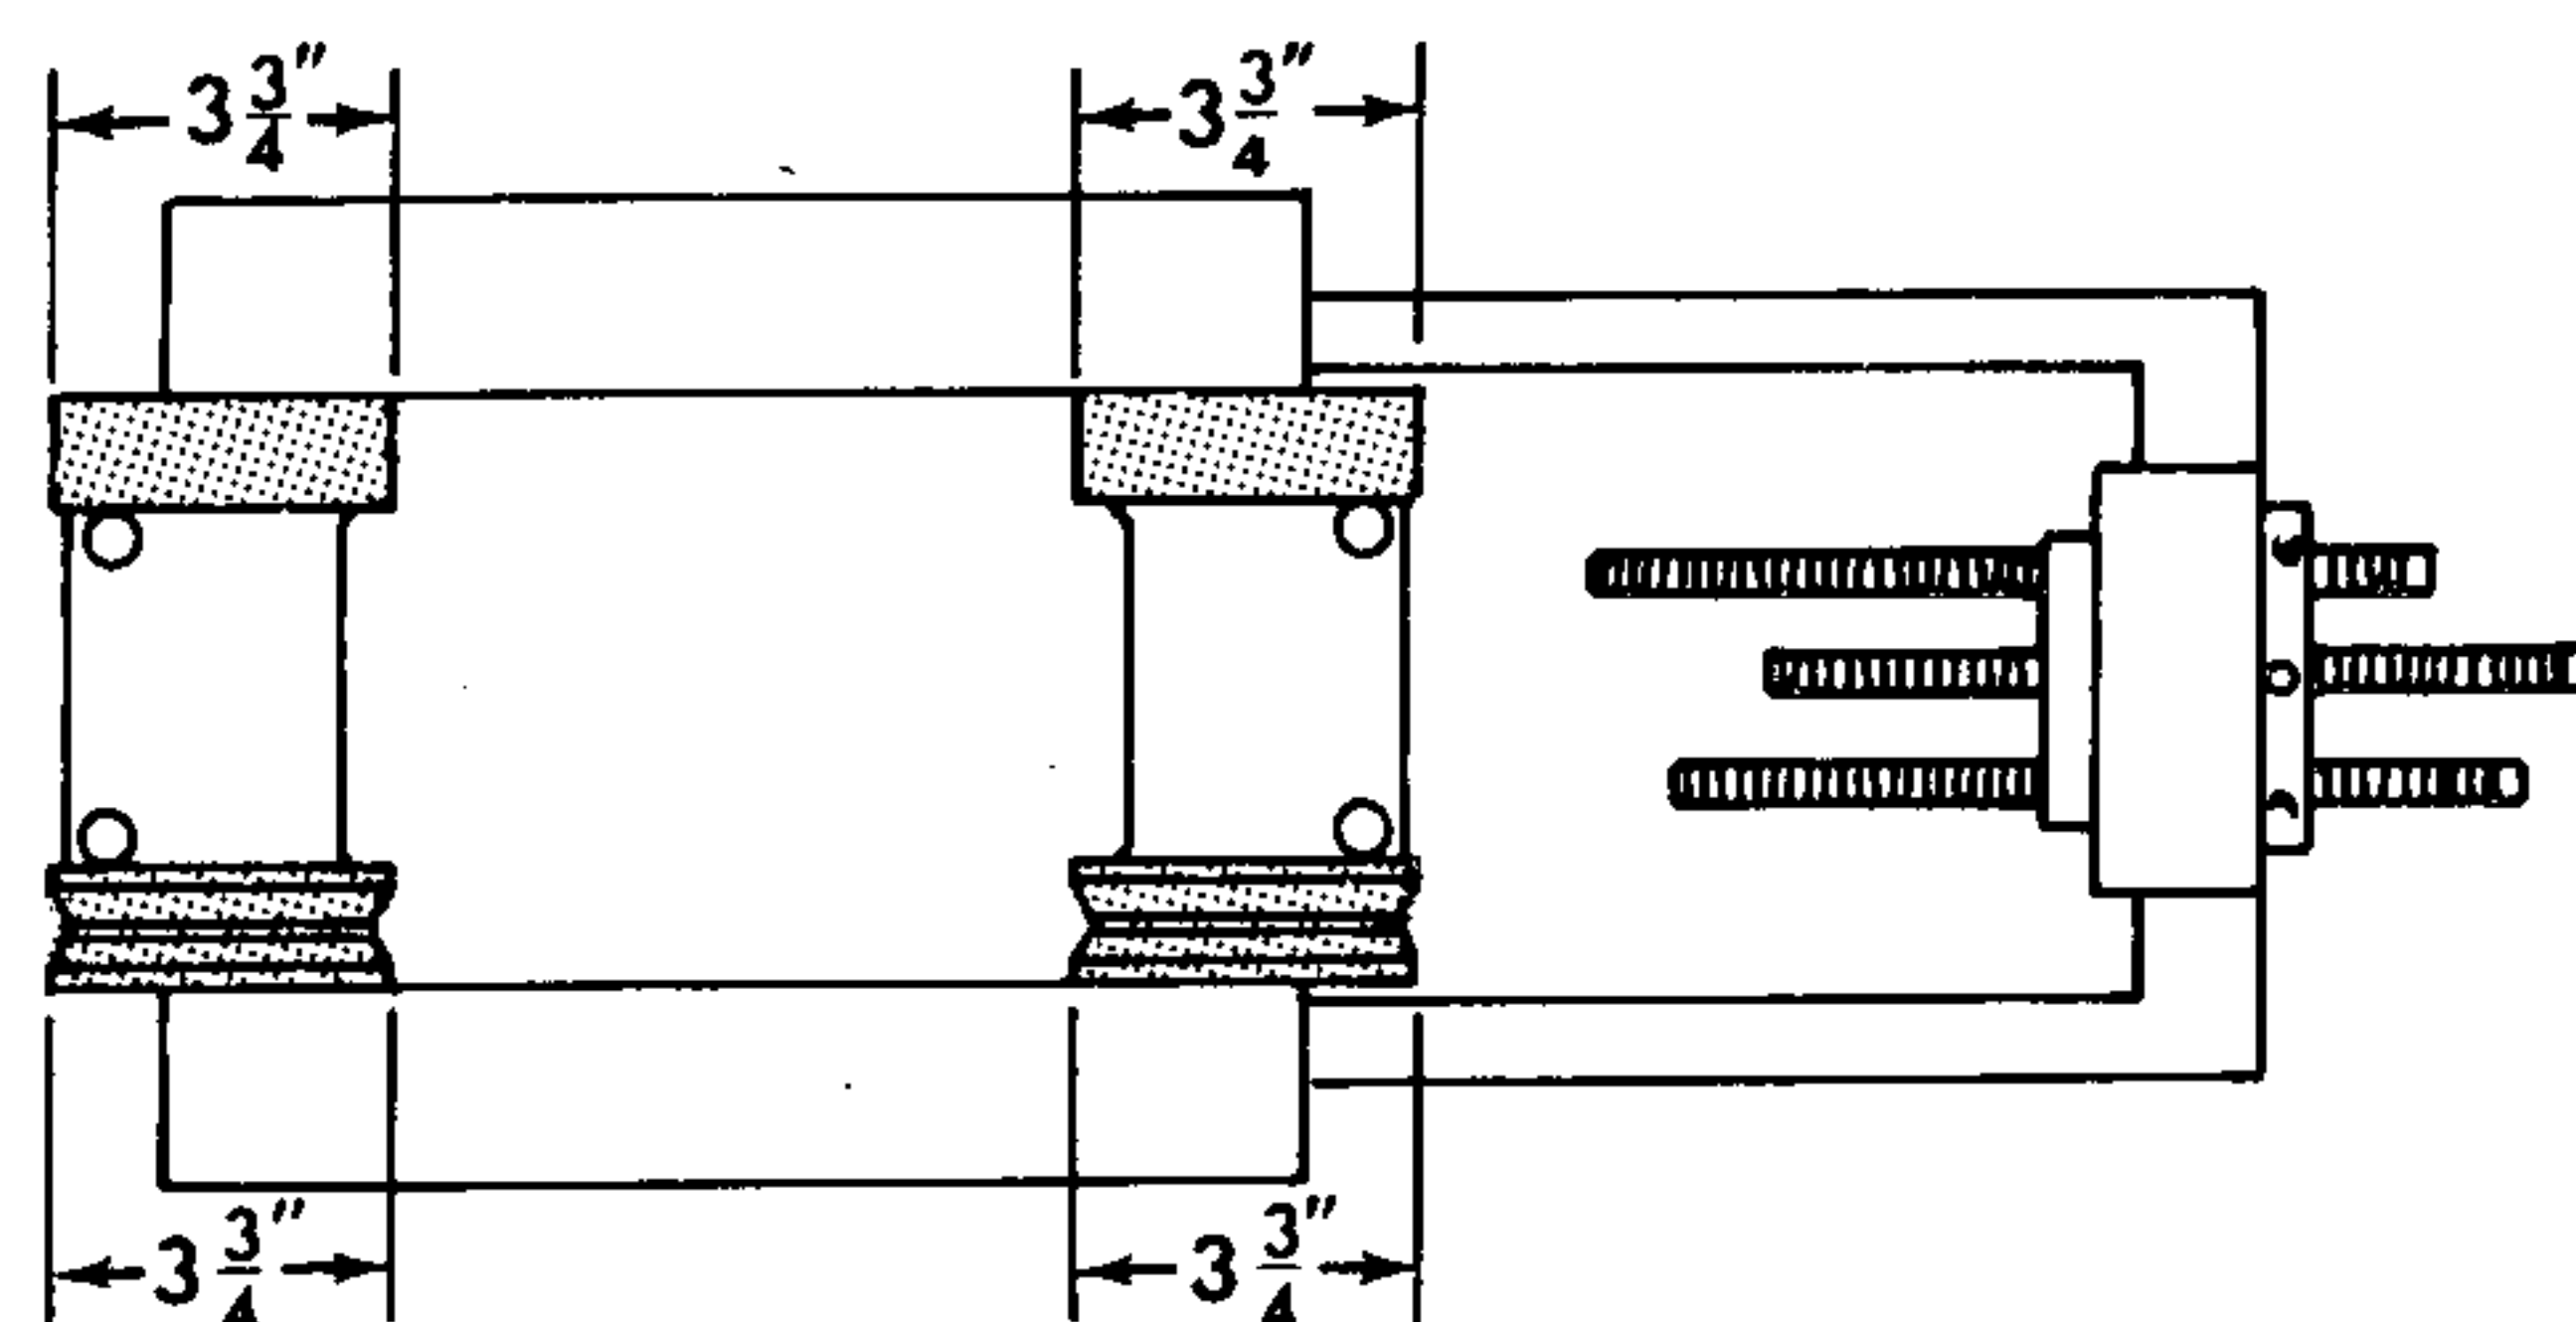

Figure 1
7. Scrape high spots just enough to remove blueing – then place turret back on lathe and check again as in steps 5 and 6. Repeat this procedure until bearing pads bear $3\frac{3}{4}$ " as shown in figure 1.